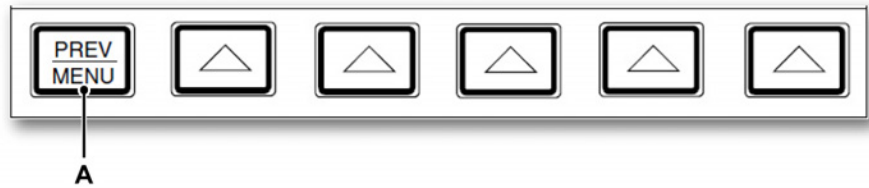

Figure E.7: Fluke 5700A/5720A Multifunction Calibrators display
- 4 To return to normal operation, press **PREV/MENU** twice (see Figure E.7).